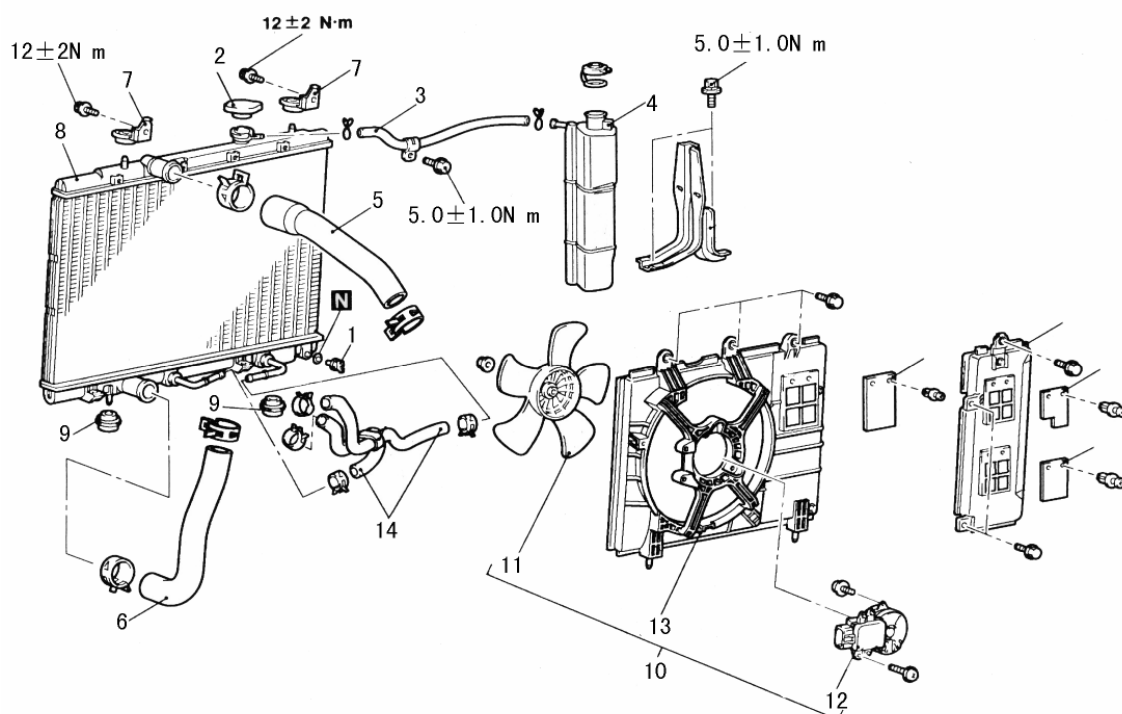

Fig 7-13
- 3) Removal steps (See Fig 7-13)
Fan assembly removal steps refer to Fig.7-13: